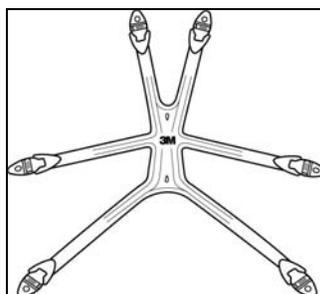

Fig. 24
3. Place the head harness down on a flat surface with the 3M logo facing up. (Fig. 24)